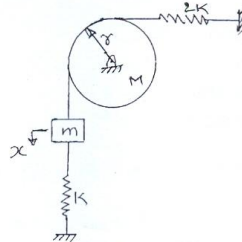

Fig.Q.1(a)
- 1 a. Determine the natural frequency of the system shown in Fig.Q.1(a) using energy method. (10 Marks)
- b. A block of mass moves on a horizontal friction less surface as shown in Fig.Q.1(b).